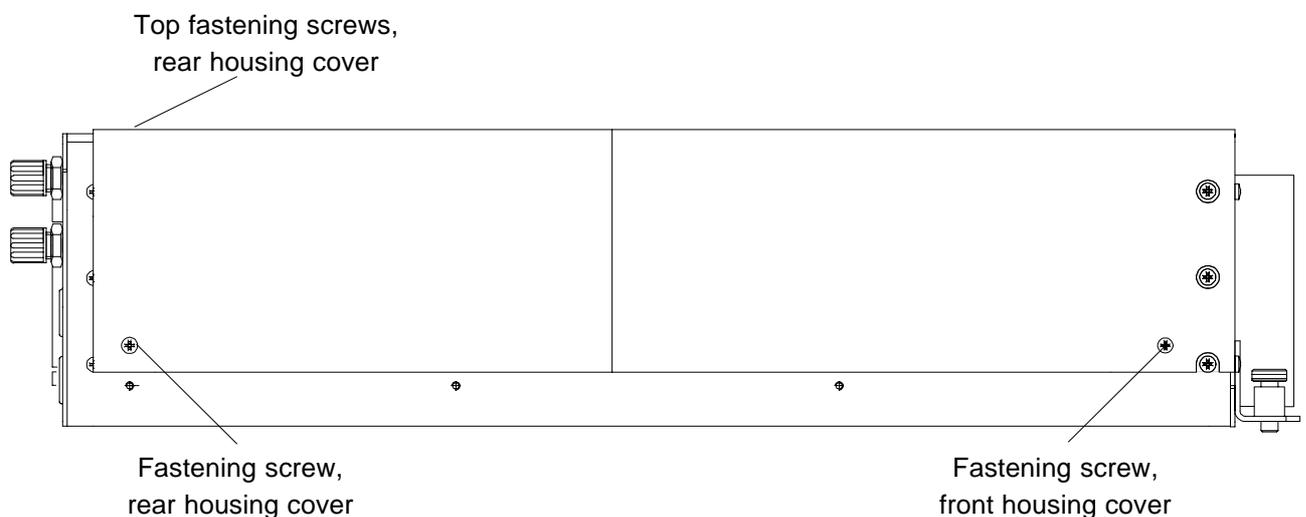

Fig. 15-1: BINOS E, Metal-sheet housing
- Unscrew the respective fastening screws at both housing sides (Fig. 15-1).
- For rear cover unscrew the additional fastening screw at the top of the housing (Fig. 15-1)